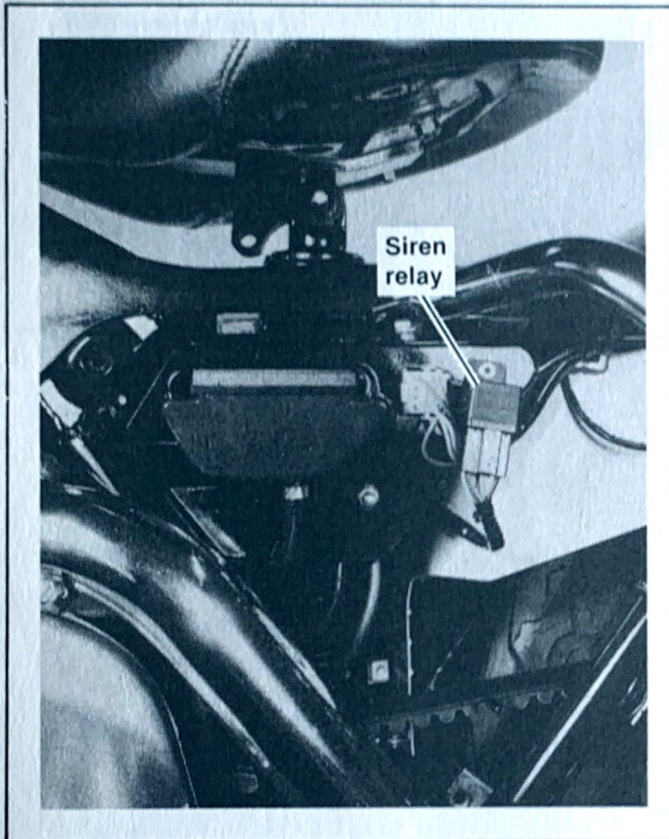

Figure 8-12. Siren Relay — FLHTP
See Figure 8-12. The amplifier is mounted to the outside bottom of the left saddlebag. To remove amplifier, disconnect connector and remove four bolts, washers and nuts.
2. See Figure 8-12. Before removing the siren relay, unplug the connector and substitute a new relay or perform the following tests.
1. See Figure 8-12. If either of the tests (Steps 2 through 4) indicate a defective relay, replace the relay.